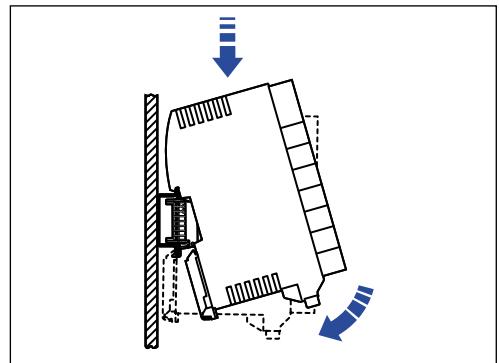

Fig. 6: Mounting the connection module on the DIN rail connector
- d. Push the connection module in the direction of the mounting surface and snap it into the DIN rail connector (Fig. 6). Mount further modules in the same way.